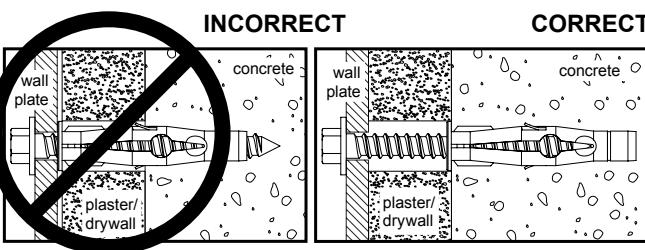

Figure. 1.4
1 Place lock down plate (A) on wall as a template. Level, and mark the center of the two mounting holes. Drill two 5/16" (8 mm) dia. holes to a minimum depth of 2.5" (64 mm). Insert anchors (E) in holes flush with wall as shown. Secure using two #14 x 2.5" wood screws (C) as shown in figure 1.4.